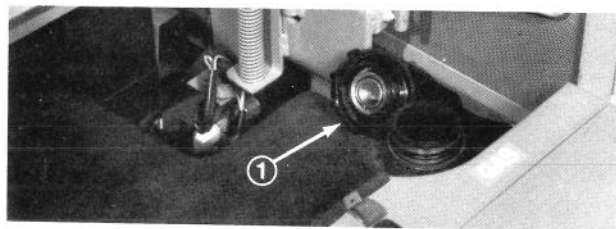

Figure 18
2. Remove cap from the fuel tank (Fig. 18) and fill the 8-1/2 gallon (30.3 l) tank to within 1 inch (25 mm) from the top with gasoline. Install fuel tank cap tightly after filling tank and lower seat.